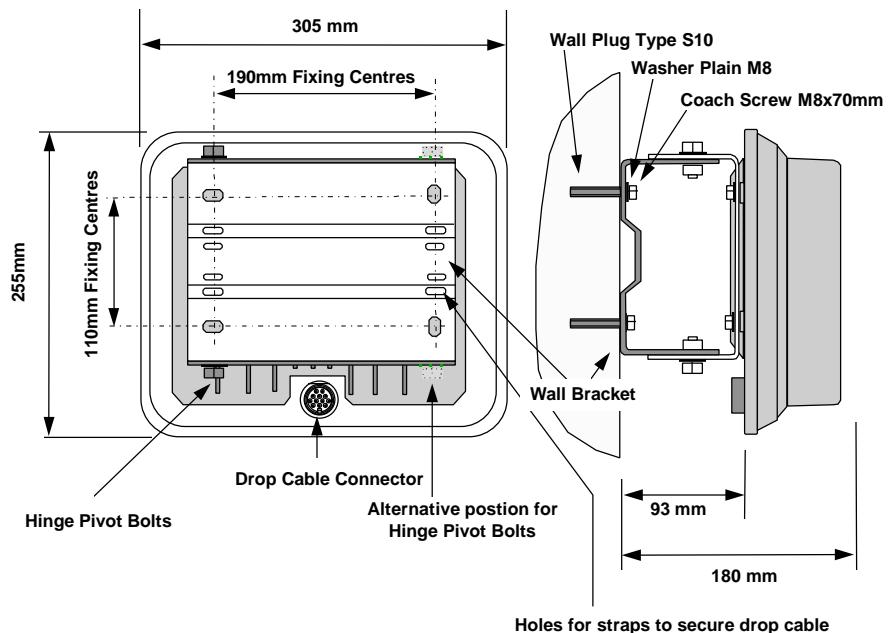

Figure 5. CRU Positioning and Securing
4. **Note:** Leave adequate clearance around the CRU wall mounting assembly to allow for the full adjustment range when aligning the CRU. (See Figure 5).